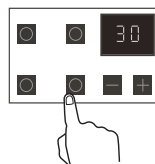

Fig.18
7. To cancel the timer, touch and hold the corresponding burner selection button for 2s and the display will flash “00” for 5s. (Fig. 18)